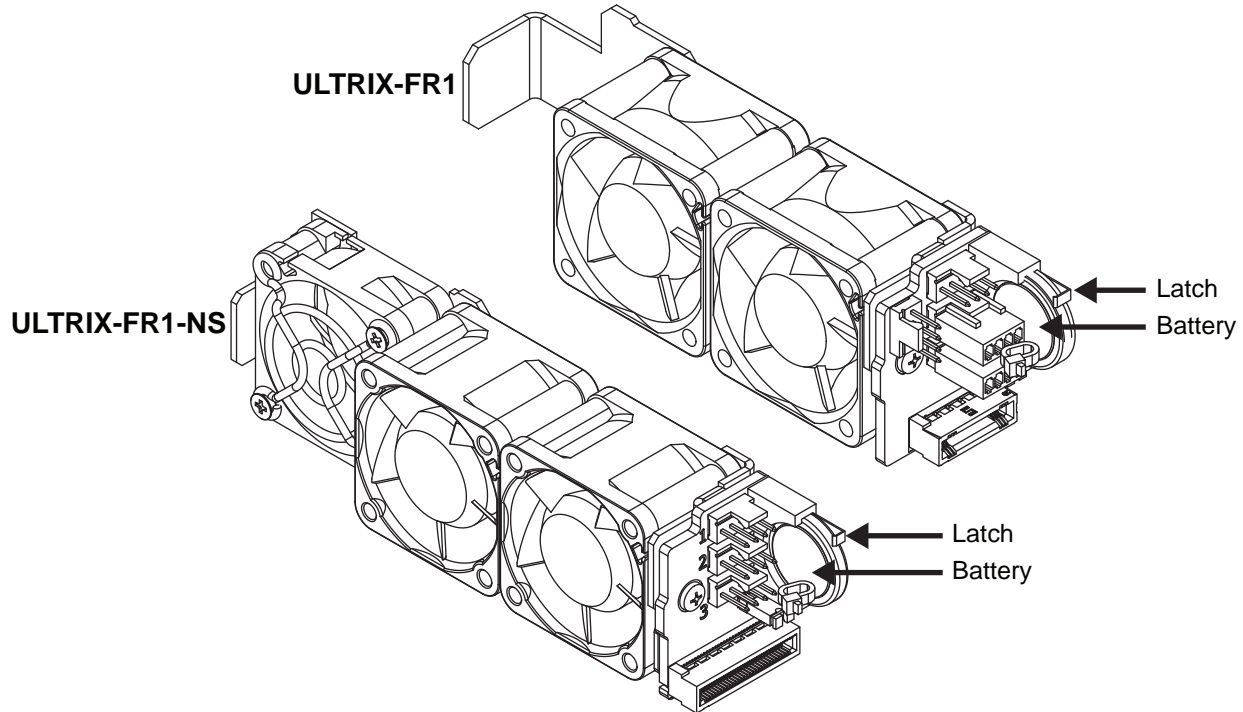

Figure 26.16 Battery Location inside the Cooling Fan Module — ULTRIX-FR1 and ULTRIX-FR1-NS
1. Locate and note the orientation of the failed battery inside the Cooling Fan Module. (**Figure 26.16**)